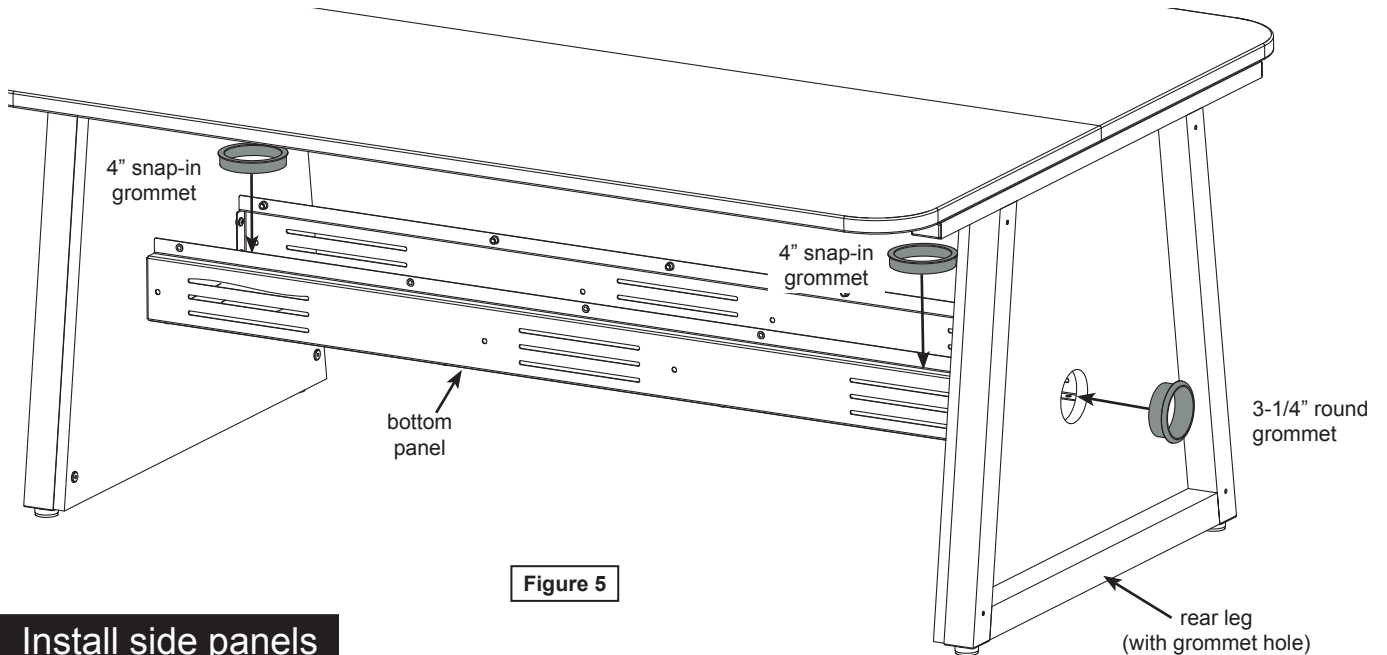

Figure 5
- A. Install (2) 4" snap-in grommets into the bottom panel. **Figure 5.**
B. Install (1) 3-1/4" grommet into the rear leg panel.